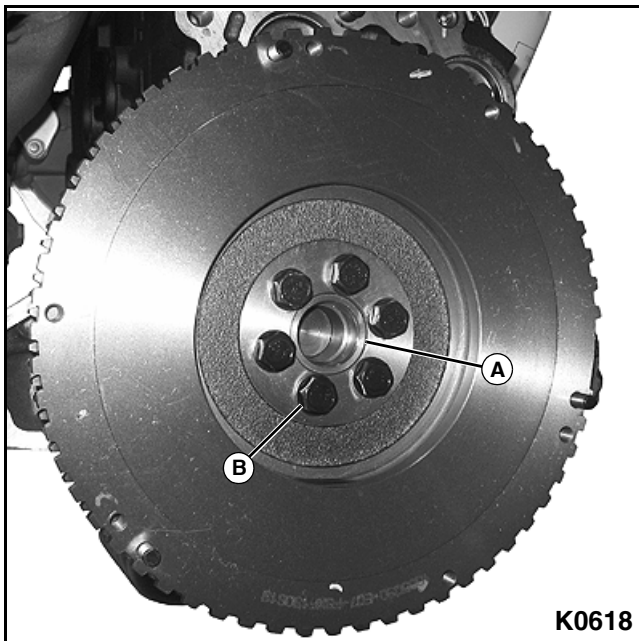

Figure 3-80
1. Install flywheel to crankshaft as marked (A) during removal. **See Figure 3-80.**
2. Install six flywheel mounting bolts (B). Torque bolts to specification. **See Figure 3-80.**